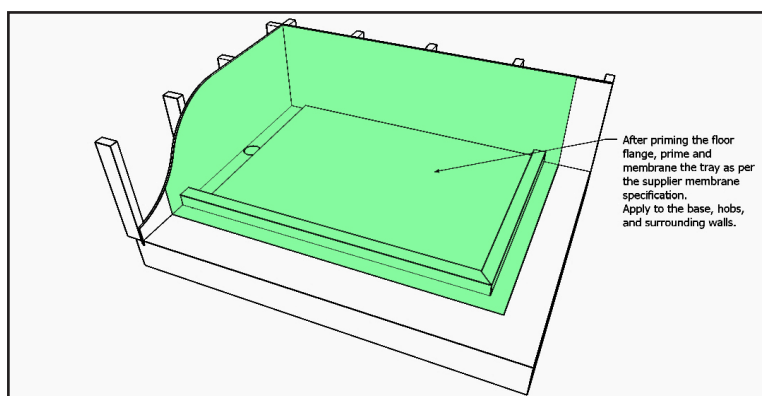

Fig. 7.1: Waterproofing of the main base.
- b)** Ensure waterproofing is applied to both wall and floor finishing heights as per local council body requirements. (See Fig. 7.1)
- d)** Ensure the waterproofing is detailed in accordance with product manufacturer and NZ Building Core requirements (Note your council may require the remaining bathroom floor to be waterproofed also). (See Fig. 7.1)